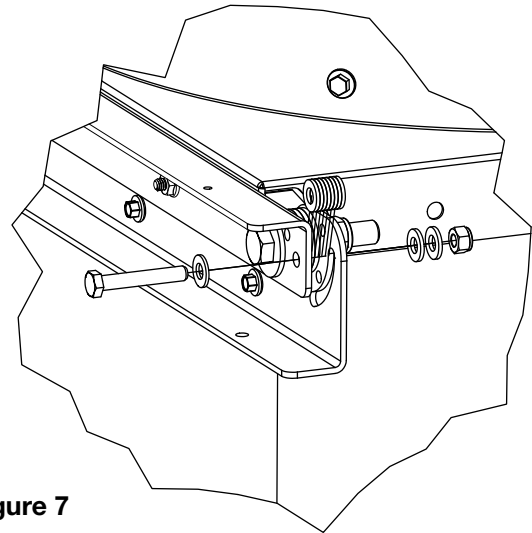

**Figure 5**
5. Insert the 1/2" bolt into the pivot hole of an upper bracket and its respective lower bracket. Also inset the detent pin or 1/4" shoulder bolt into locking hole in the upper bracket and lower locking hole of the lower bracket. While pressing the lower bracket against the roof curb and holding it level, mark the curb mounting holes using a marker. See Figure 5.